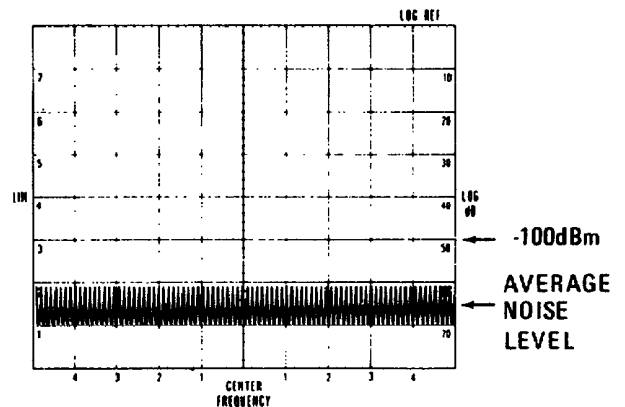

Figure 7-3. Residual Response Test:
3. Observe the display as the analyzer scans from 10 to 110 MHz. The average noise level should be less than -100 dBm, and no, residual responses should occur. Figure 7-3 represents a scan with no residual responses, and with the average noise level indicated.